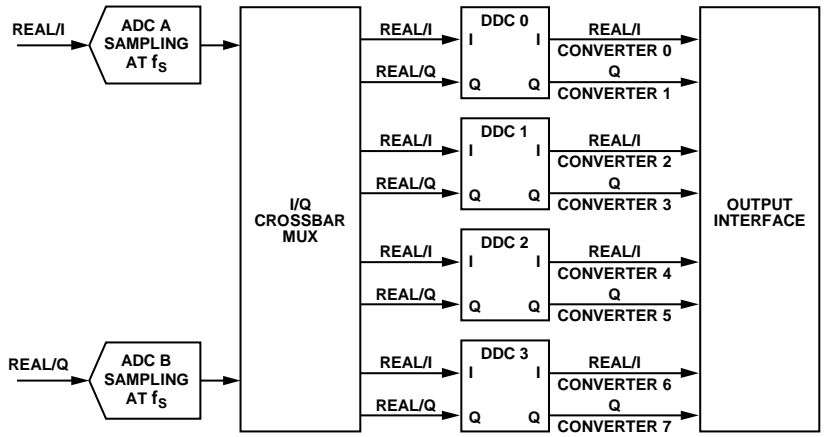

Figure 68. DDCs and Virtual Converter Mapping
The JESD204B Tx block for AD9680 supports up to four DDC blocks. Each DDC block outputs either two sample streams (I/Q) for the complex data components (real + imaginary), or one sample stream for real (I) data. The JESD204B interface can be configured to use up to eight virtual converters depending on the DDC configuration. Figure 68 shows the virtual converters and their relationship to the DDC outputs when complex outputs are used. Table 24 shows the virtual converter mapping for each chip operating mode when channel swapping is disabled.
If the internal DDCs are used for on-chip digital processing, M represents the number of virtual converters. The virtual converter mapping setup is shown in Figure 68.